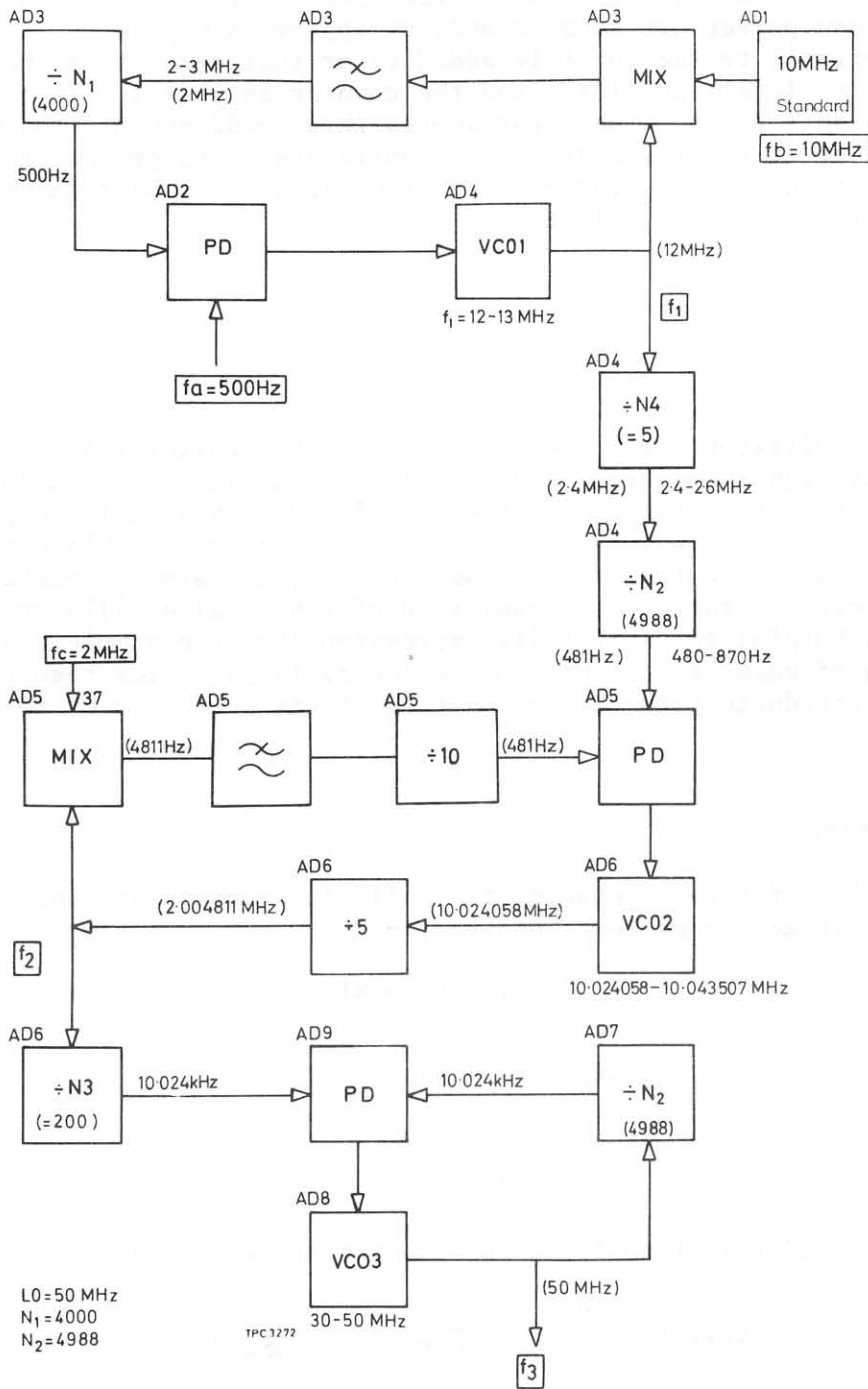

Fig. 4 Local oscillator operation - example values given in brackets are for 50 MHz operation
10. Consideration of Fig. 4 enables the following expressions for each of the three phase locked loops to be derived :-